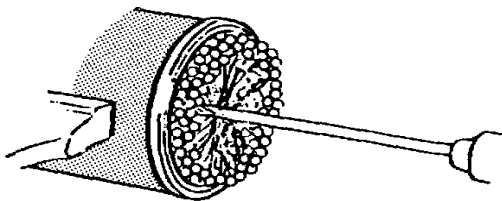

Fig. 55. Flexhoning the cylinder liner
1. Secure the cylinder liner in a vice, fig. 55. Flexhoning with the cylinder liner in situ is not recommended because of the risk of blockage of the oil passages and the difficulty of carrying out accurate feed.